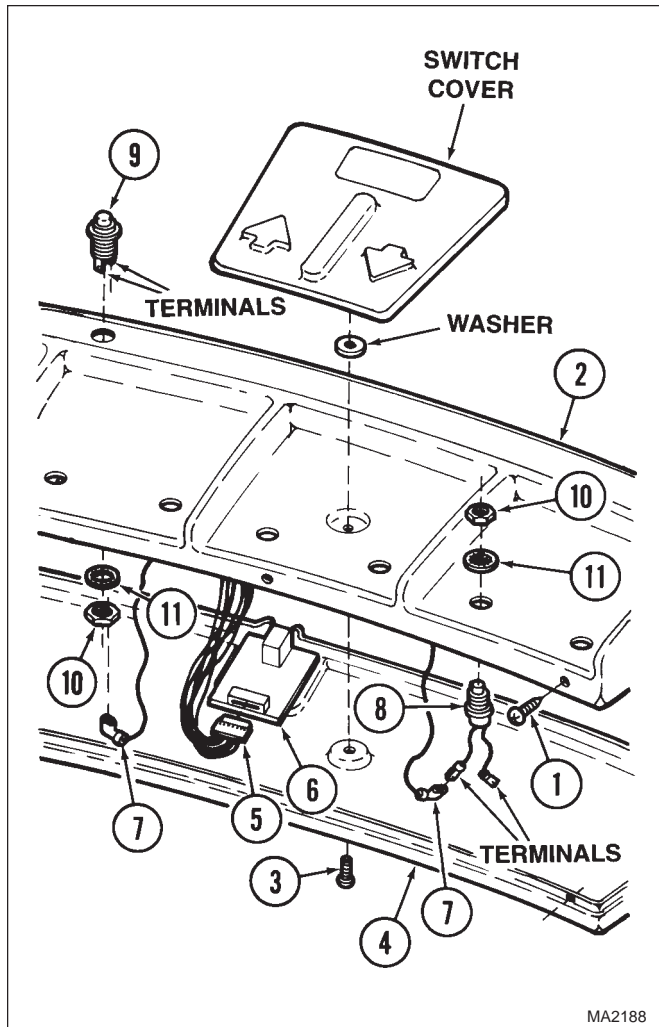

Figure 4-66. Foot Control Assembly Switch Removal / Installation
- (1) Remove eight screws (1, Figure 4-66) from top housing (2).
- (2) Remove four screws (3) and partially separate top housing (2) from bottom housing (4).
- (3) Disconnect ribbon connector (5) from control interface board (6) and separate top housing (2) from bottom housing (4).
- (4) Disconnect two switch wires (7) from terminals of switch (8 *or* 9).